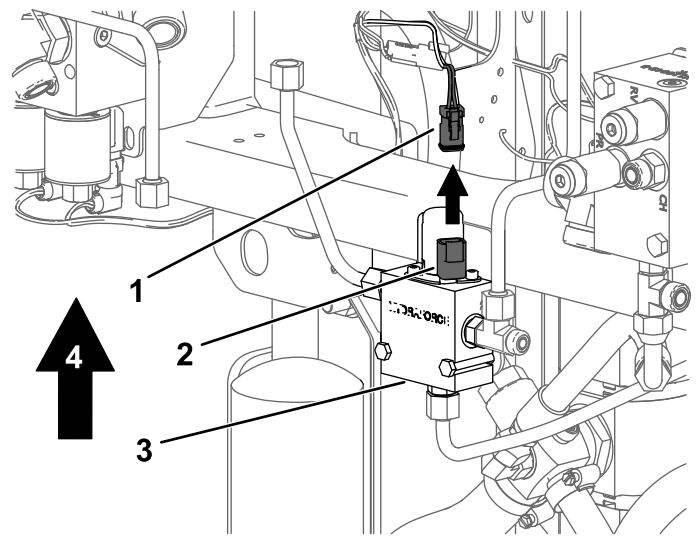

Figure 29
10. Unplug the coil from the 3-way manifold (Figure 29).